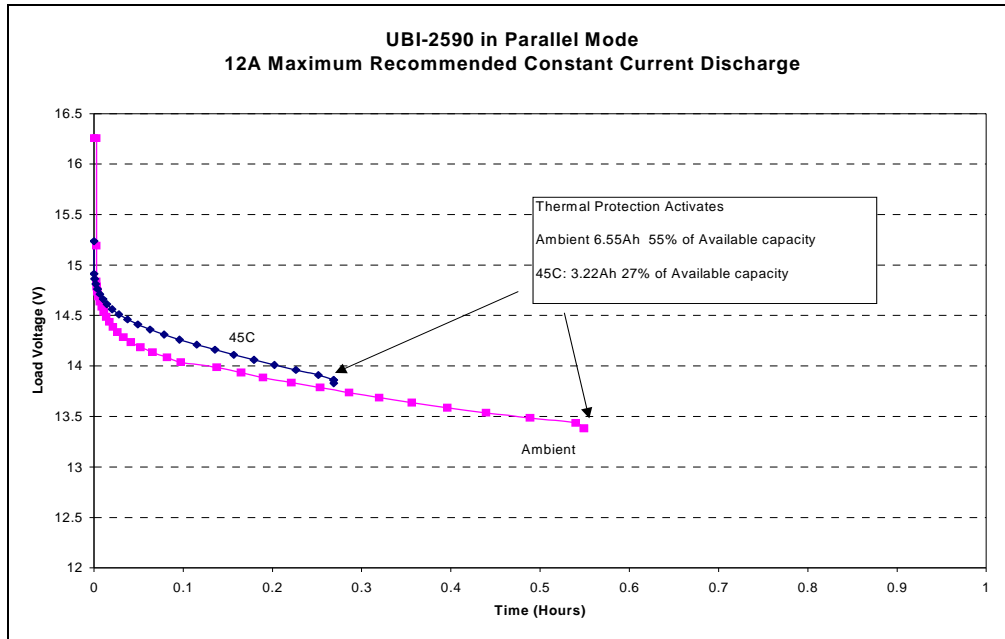

Figure 1
- 7.4. **NOTE:** The continuous use of the battery at or near max discharge capability, especially at elevated temperatures, will cause reset-able internal thermal protection devices to activate. See Figure 1.